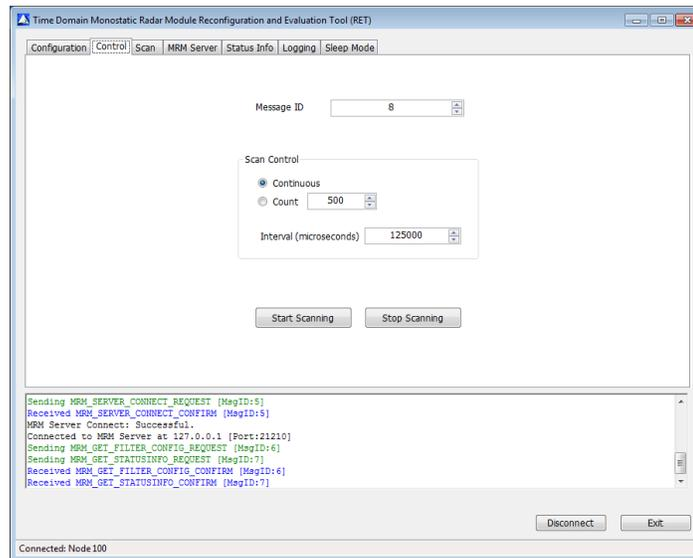

Fig. 11: MRM RET Control Tab
1. In the MRM RET application, click on the Control tab. (See **Figure 11**.)